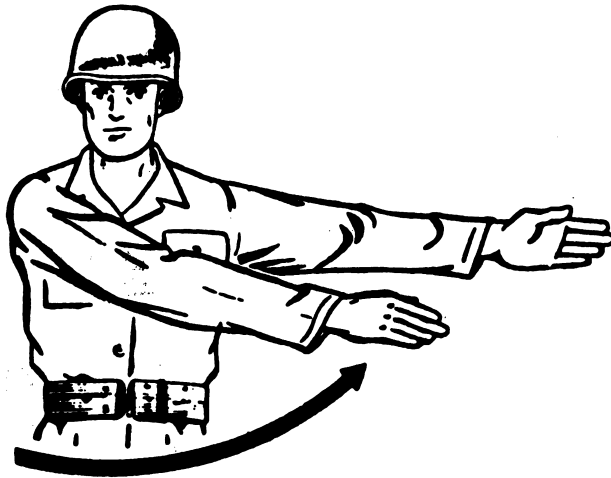

Figure 8. Move right.
h. To indicate move right, extend left arm sideways, horizontally, in direction of movement and repeatedly swing right arm in front of body in the same direction (fig. 8).